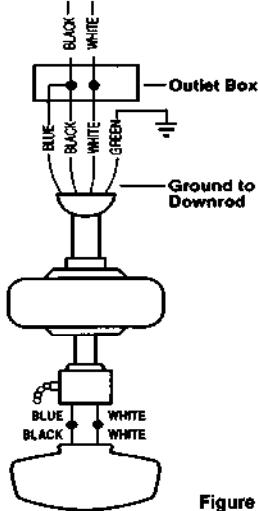

Figure 12
Step 3 Connect the fan supply (black and blue) wire to the black household supply wire as shown in Figure 12.